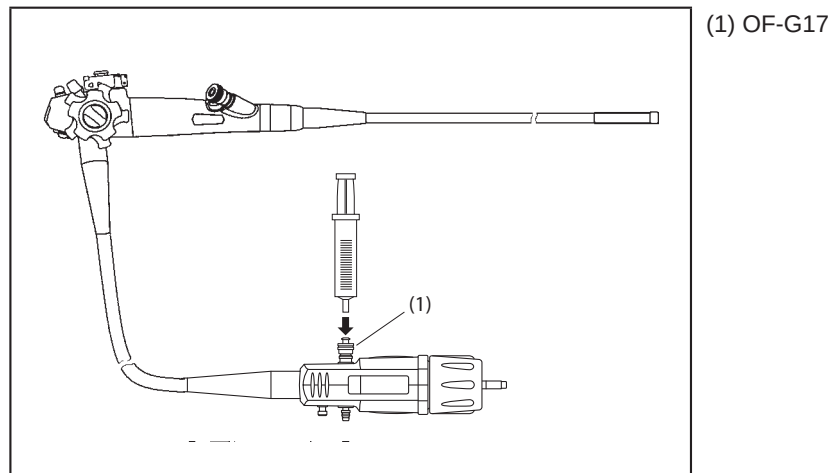

Figure 1.2.27
- 4) Attach a syringe filled with air to OF-G17, and flush the air/water channel with 90 mL of air to purge residual disinfecting solution. (see Figure 1.2.27, p34)
- 7) Attach a syringe filled with water to OF-G17, and flush the air/water channel with 90 mL of water. (see Figure 1.2.27, p34)
- 11) Attach a syringe filled with air to OF-G17, and flush the air/water channel with 90 mL of air. (see Figure 1.2.27, p34)
- 1) Attach a syringe filled with 70-90% medical grade ethyl or isopropyl alcohol to the cleaning adapter (OF-G17), and flush the air/water channel with 35 mL of alcohol. (see Figure 1.2.27, p34)
- 4) Attach a syringe filled with air to OF-G17, and flush the air/water channel with 90 mL of air to remove residual alcohol. (see Figure 1.2.27, p34)